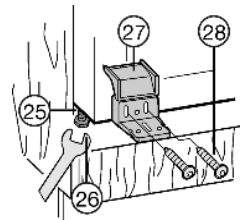

Fig. 21
- ▶ Align the plastic bracket Fig. 21 (27) in depth so as to be flush with the front edge of the base of the unit.
- ▶ allow for additional space needed: align plastic bracket Fig. 21 (27) parallel to the front edge of the hinge.
- ▶ Align plastic bracket Fig. 21 (27) in depth so as to be flush with the front edges of the side walls of the unit, even if the bracket projects over the base of the unit as a result.
- ▶ Level the appliance by means of the adjustable feet Fig. 21 (25) using the accompanying spanner Fig. 21 (26).